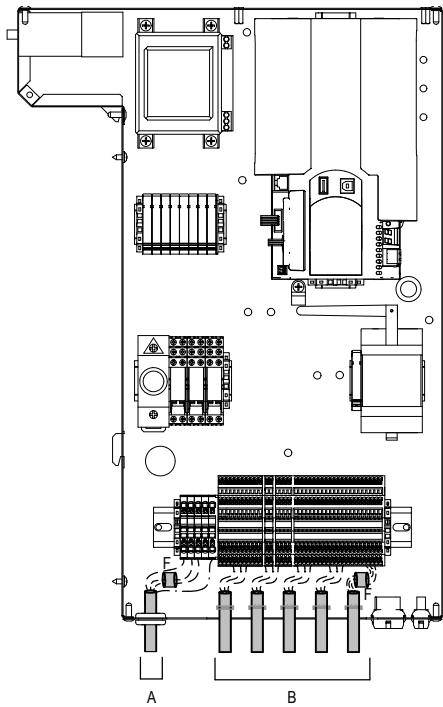

Figure 8.1: electrical panel sizes 07V, 09V, 11V and 15V
The figures above (Figures 8.1, 8.2, 8.3 and 8.4) show an example of ferrite core installation on the power cord (A) and remote control cables (B).